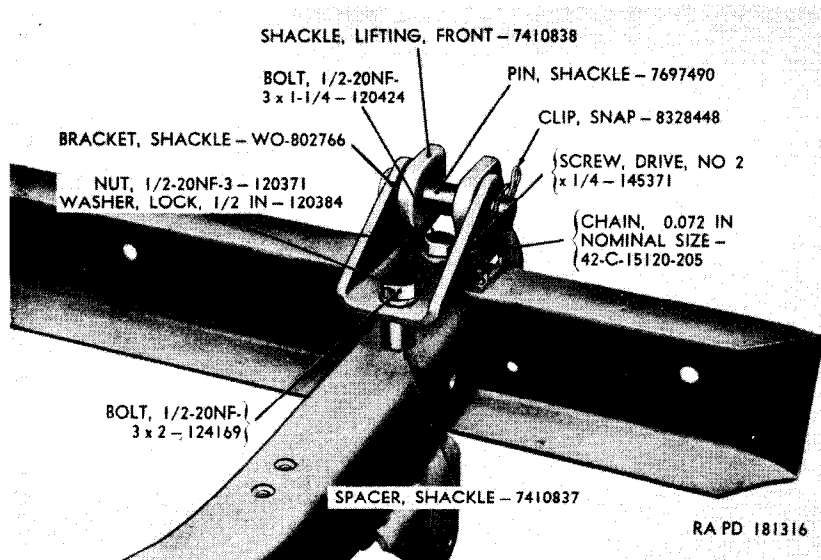

Figure 180. Front lifting shackle installed.
(fig. 180)
a. Front Lifting Shackles (fig. 180). Remove lifting shackle snap clip from hole in lifting shackle pin. Remove pin and lift shackle from bracket. Remove chain to towing shackle bracket drive screw and remove chain from lifting shackle bracket.
a. Front Lifting Shackles (fig. 180). Position lifting shackle within lifting shackle bracket and secure shackle to bracket with the lifting shackle pin. Secure 0.072-inch lifting shackle clip chain to bracket with a No. 2 x $\frac{1}{4}$ lifting shackle bracket drive screw. Lock shackle pin with the lifting shackle snap clip.